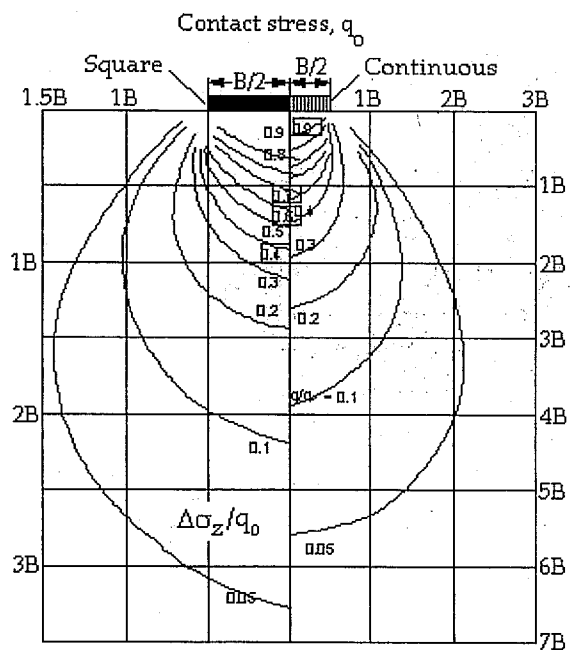

Figure 9
9. A 1.5m x 1.5m square footing is subjected to an allowable contact pressure of 100kPa. The stress acting at a depth of 3m, along the centreline of the footing (refer Figure 9) is: